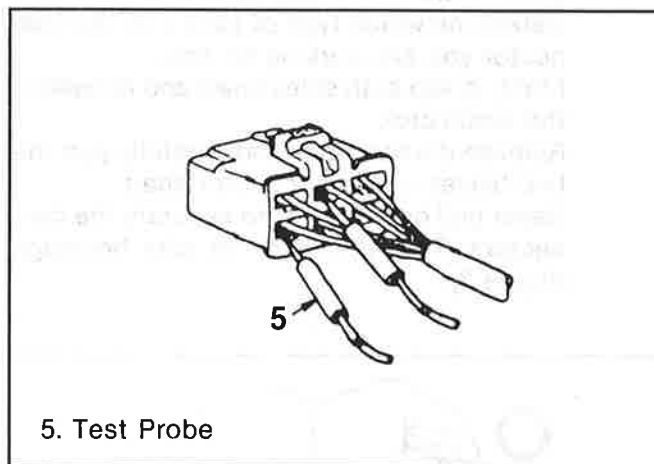

Figure 5. Connector Inspection (1)
Connector Inspection (Figures 5 and 6)
Insert the test probes (5) from the connector wire side (figure 5).